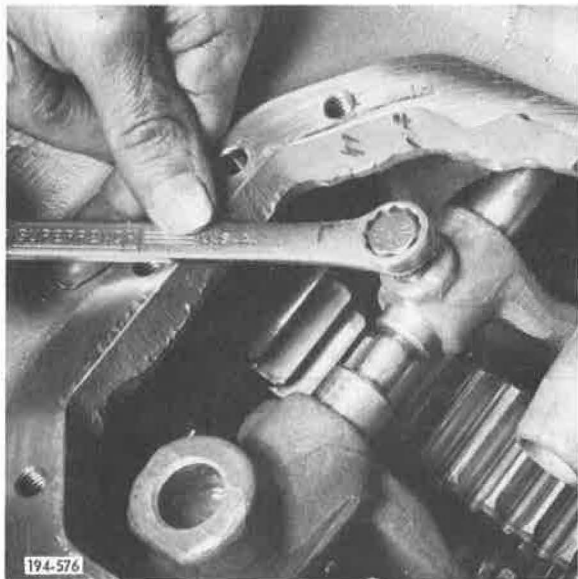

Figure 29. Removing Setscrew
28. Remove setscrews from first speed shift fork and second/third speed shift fork. See Figure 29.